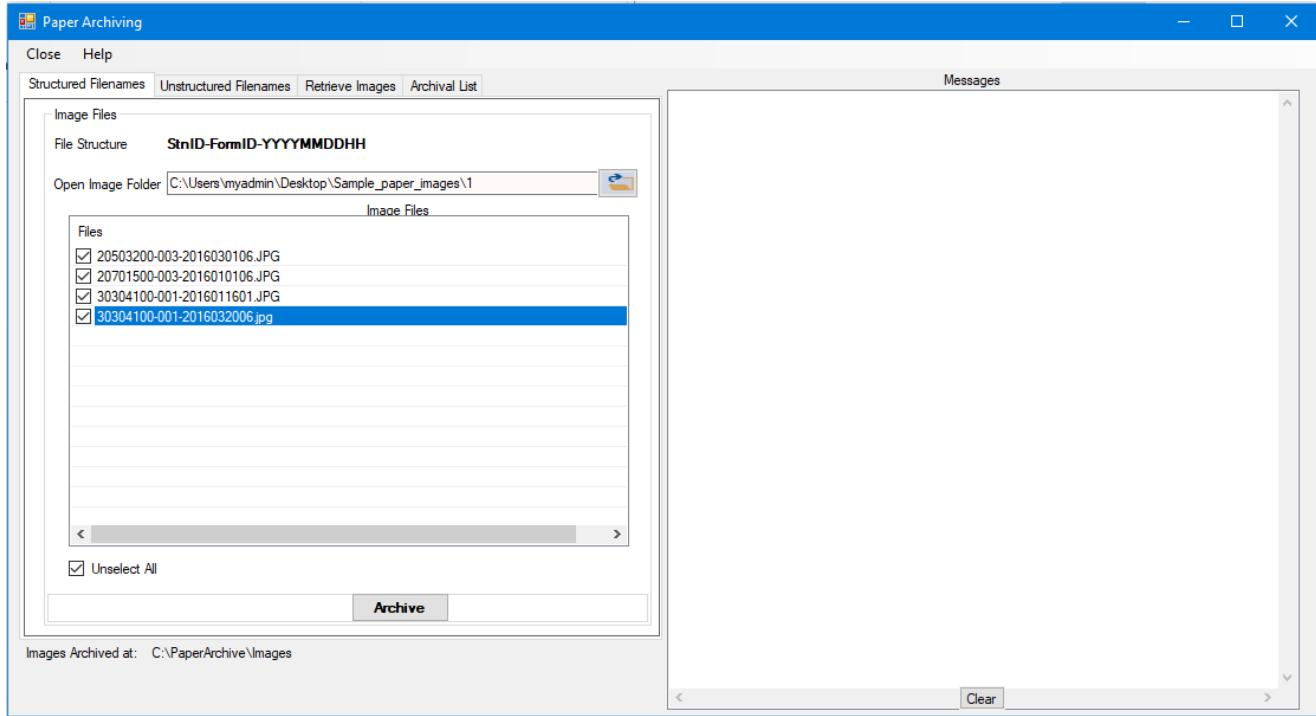
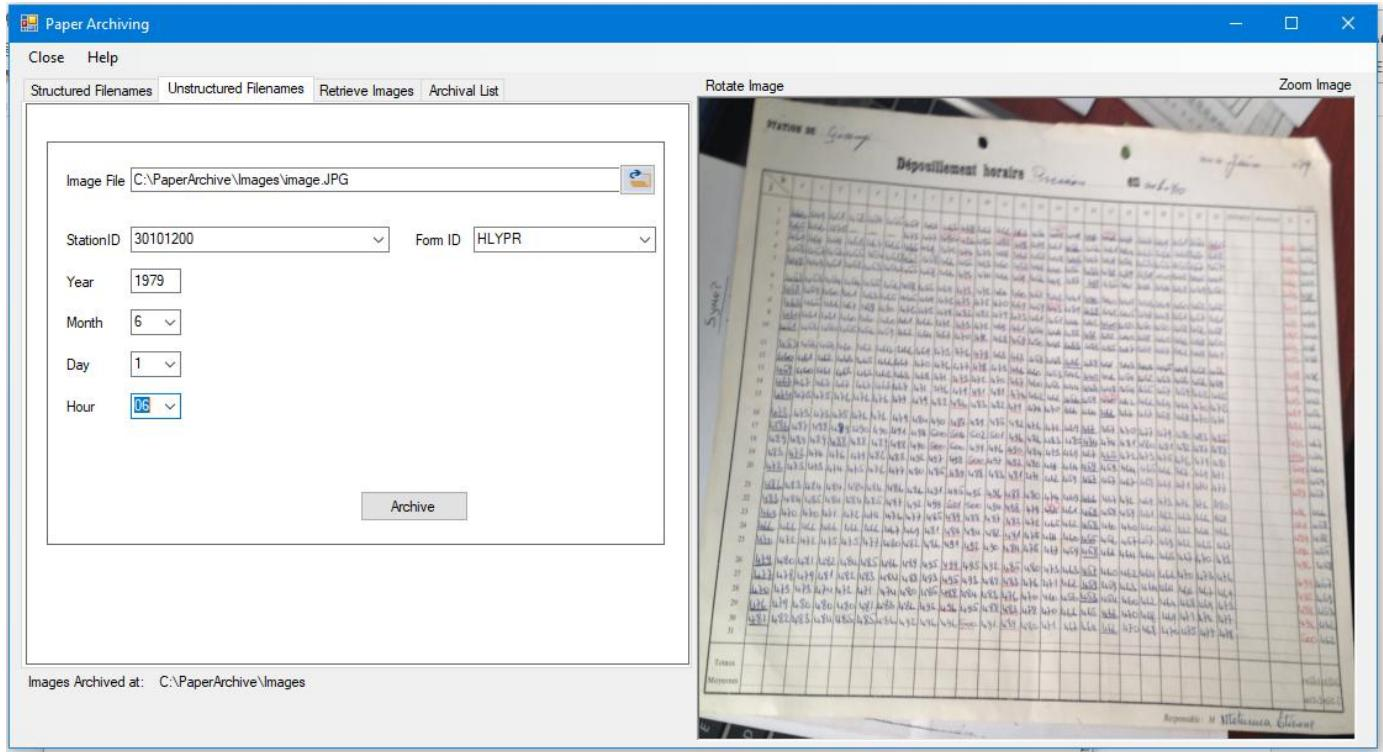

Figure 98: Archiving images with standard filename structure
Figure 99: Dialog for archiving images with unstructured file names
- (i) From the **Welcome** dialog, click on the icon **Paper Archive** to obtain the dialog shown in **Figure 98**,
From the Paper Archive dialog shown in Figure 98 click the tab “**Unstructured Filenames**” to obtain the dialog shown in **Figure 99**: